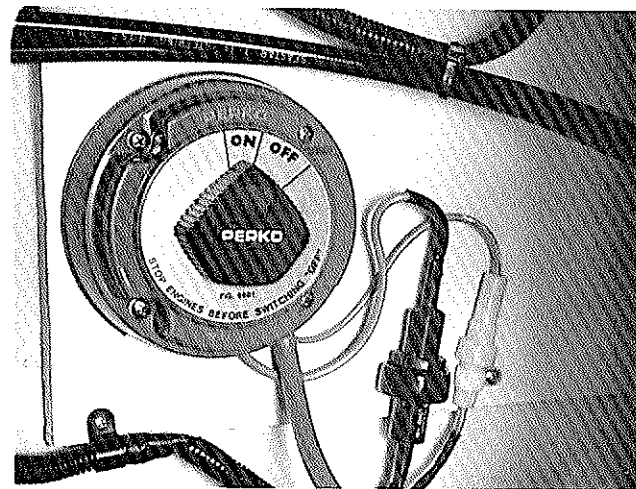

Figure 18
3. Put the battery main switch in the "On" position. See figure 18.